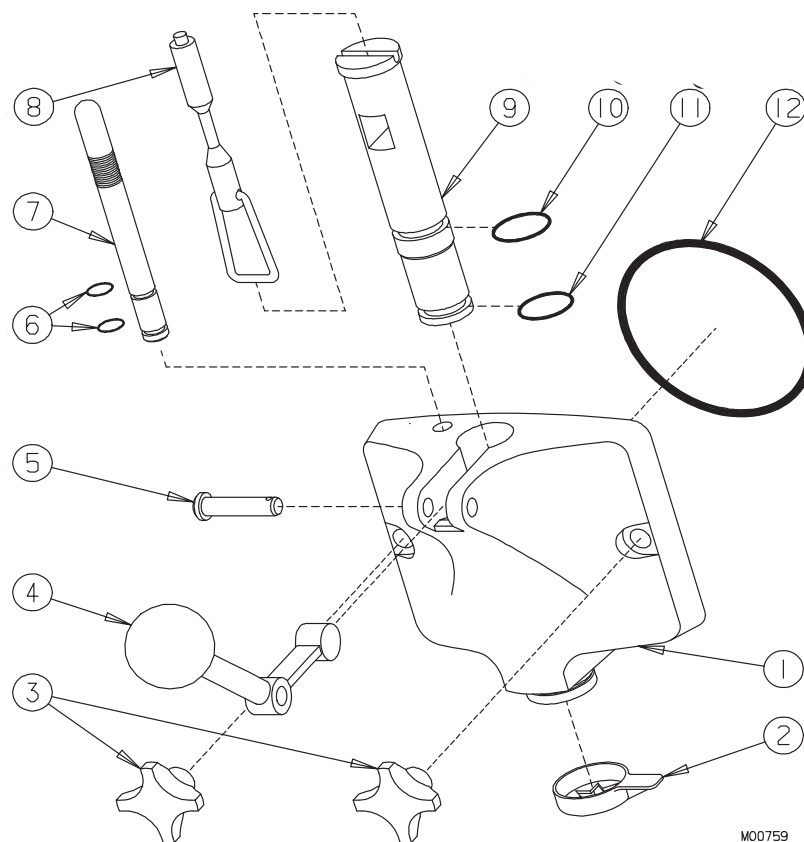

Figure 8-4 Head Assembly
5. (Refer to figure 8-4.) Install and then